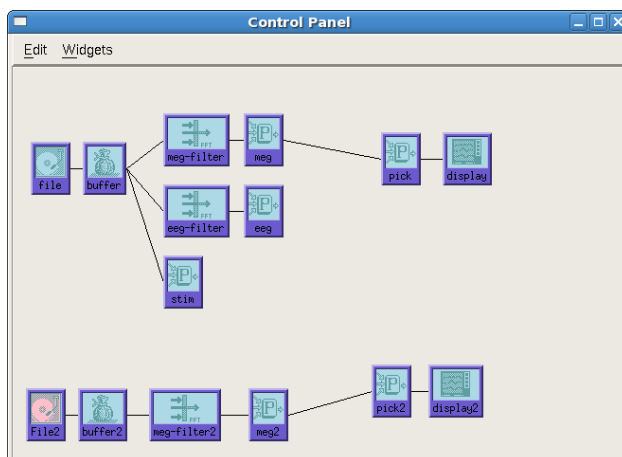

Figure 51 : The control panel for *compare.setup*.
- The *Graph* display shows two synchronized windows (Figure 50). The control panel has separate controls for both windows (Figure 51).